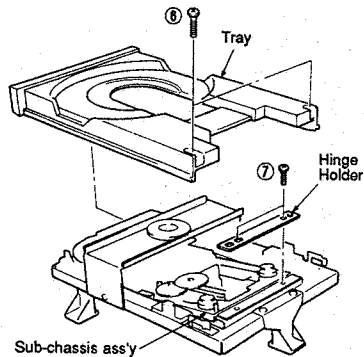

Fig. 2
- a. Remove 2 screws (⑥) in Fig. 2.
- c. Remove 2 screws (⑦) and remove the hinge holder in Fig 2.